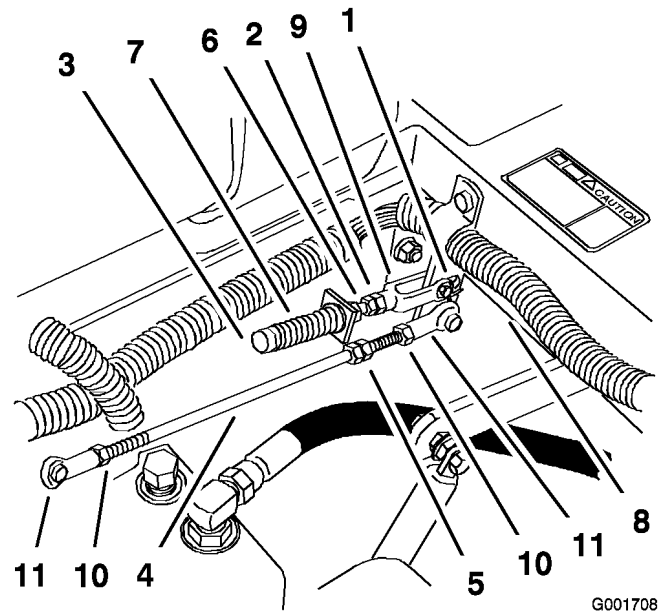

Figure 68
1. Loosen the locknuts at the ball joints on the pump control rod (Figure 68).
3. Adjust the pump rod length by rotating double nuts on rod, in the appropriate direction, until wheel is still or slightly creeps in reverse (Figure 68).
6. Tighten the locknuts at the ball joints (Figure 68).